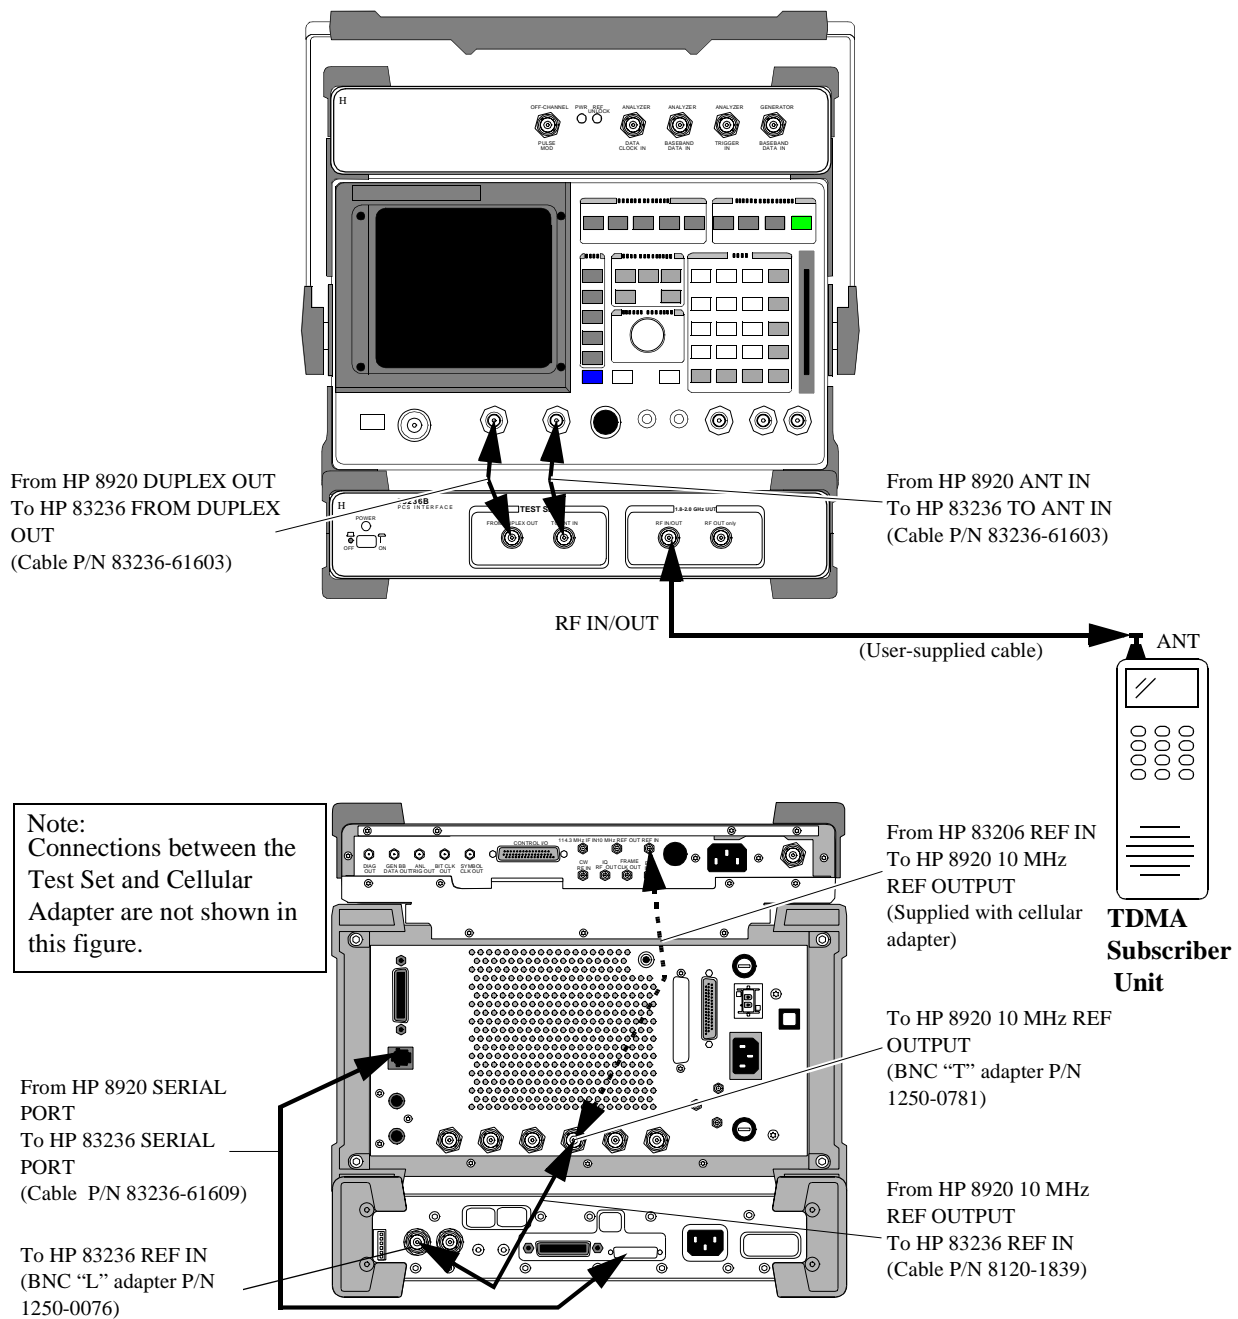

Figure 9 Connection diagrams for the HP 8920 Test Configuration (TDMA Subscriber Unit Tests; Serial Control)
- 2 Make the front and rear panel connections shown in figure 9.